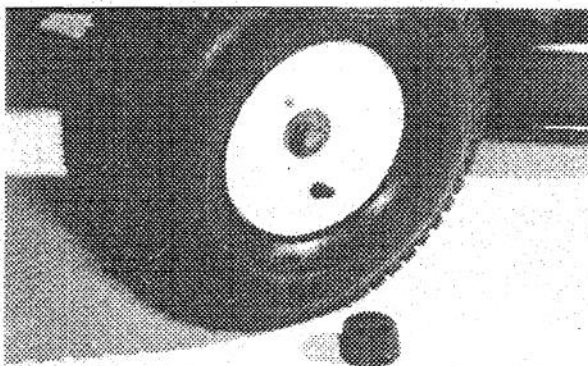

Figure 48
4. Remove the cotter pin and flat washer (Fig. 48) and remove the wheel from the axle.